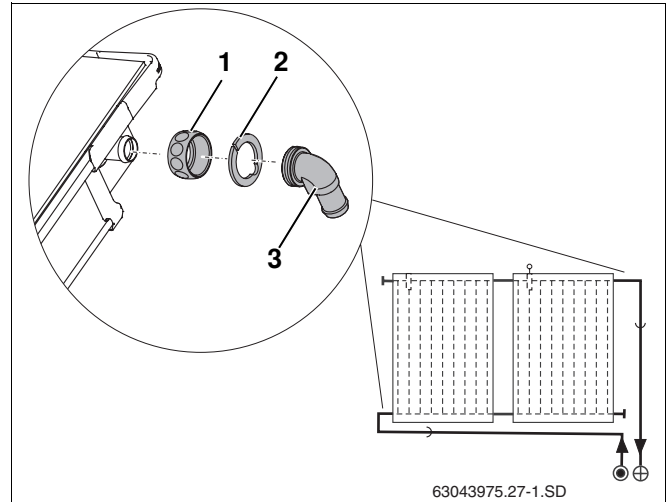

Fig. 22 Fitting angled nozzles
- Put 55 mm solar hoses (Fig. 22, **Item 2**) together with the pre-assembled dummy plug onto the two free connections on the collector array.
- Push nut (Fig. 22, **Item 1**) over the collector connections.
- Place the clamping disc (Fig. 22, **Item 2**) behind the head on the collector connection and press together.
- Align angled nozzle (Fig. 22, **Item 3**) and bolt together with nut.